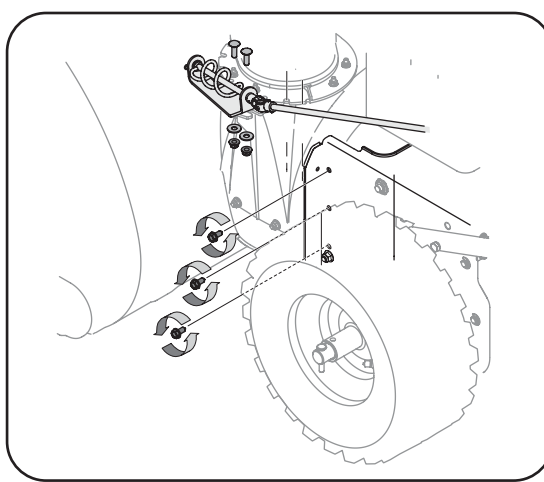

Figure 6-8
1. Disconnect the chute crank assembly by removing the two nuts which secure the chute bracket to the chute adapter. See Figure 6-8.
7. From both sides of the the frame assembly, use a 1/2" wrench to remove the three hex tap screws securing the frame to the auger housing assembly. See Figure 6-8.